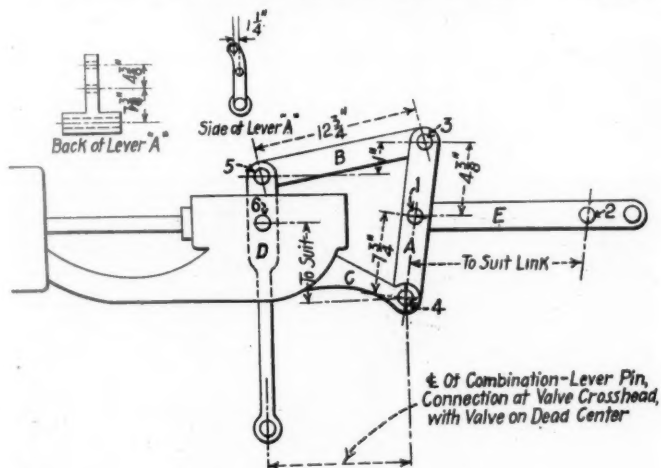

Fig. 1
Referring to the article in the November, 1929, issue, I have prepared the two sketches and a number of questions that I would like to have answered. Referring to Fig. 1., starting-power lever:
- 7—Show on Fig. 1 the suggested position with all the necessary dimensions of the auxiliary-reach-rod arm when the tumbling shaft is located behind the link.
Also, the starting lever is vertical when the link block of the Walschaert gear is in mid gear regardless of the position of the other parts. I understand that this feature has only been applied to engines equipped with a Walschaert gear. I am adding a rear view to Fig. 1 showing how the lower bearing is extended for some 12 in. for long wear. The measurements shown in Fig. 1 were taken from the Santa Fe 2-10-2 type, which was described in the July, 1928 issue.